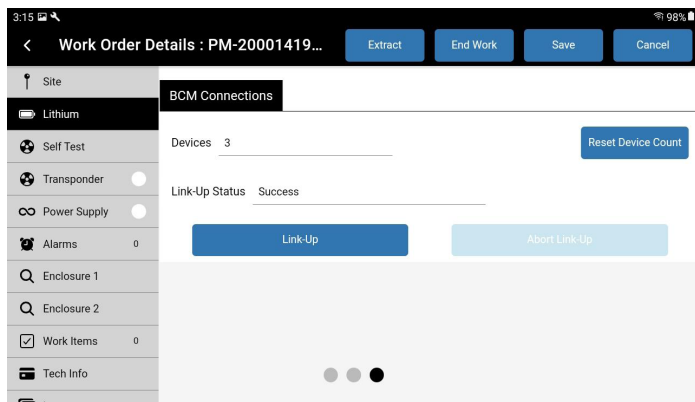

Fig. 5-17, Spotlight360™ App - BCM Connections
3. On the Lithium page in the Spotlight360™ application on the tablet (**Fig. 5-17**), swipe to the "BCM Connections" display, and check whether the displayed "Devices" count matches the number of BCMs. If not, check the communications cables, then use the "Device Count" button to update the count. Alternatively, on the XM3.1-HP™ power supply Smart Display (**Fig. 5-18**), in the **BATT** menu, confirm that the **SYS DEVICE CNT** matches the number of BCMs. (If not, check the communications cables, then use the **RESET SYS COMMS** function to update the count.)